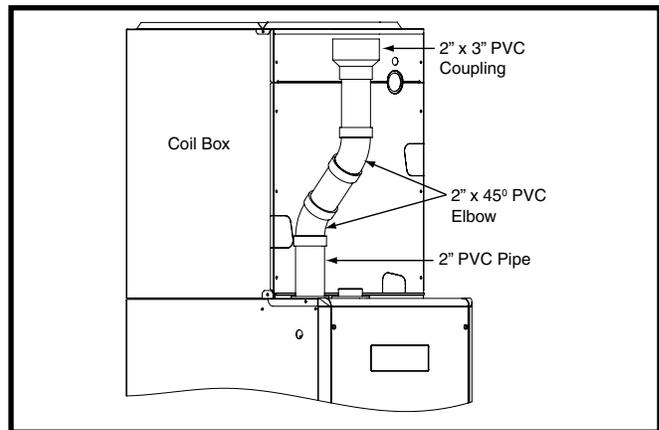

Figure 21. Optional PVC Pipe Installation
- If the size of the PVC pipe needs to be increased from 2" to 3", two, 2" x 45° PVC elbows may be used to achieve the clearances needed between the coil box and the 2" x 3" coupling. See Figure 21 \(page 18\).